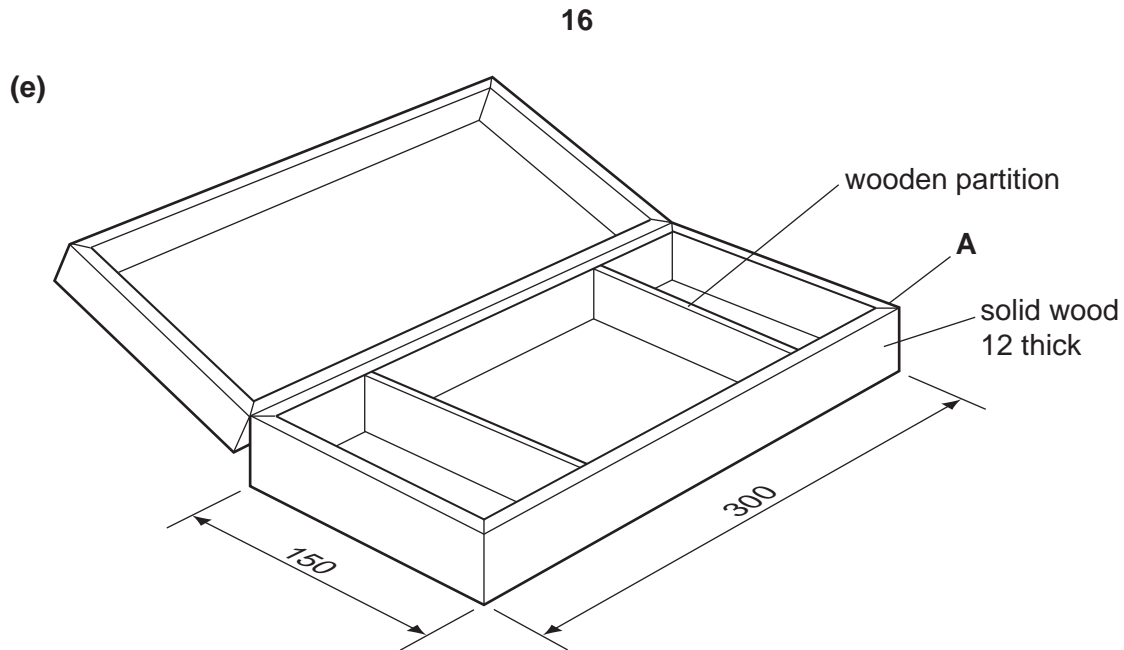

Fig. 17
- (i) Give **two** advantages of using a plastic tray rather than the separate wooden partitions shown in Fig. 17.
- (f) The joint at corner **A** in Fig. 17 is a mitre joint.